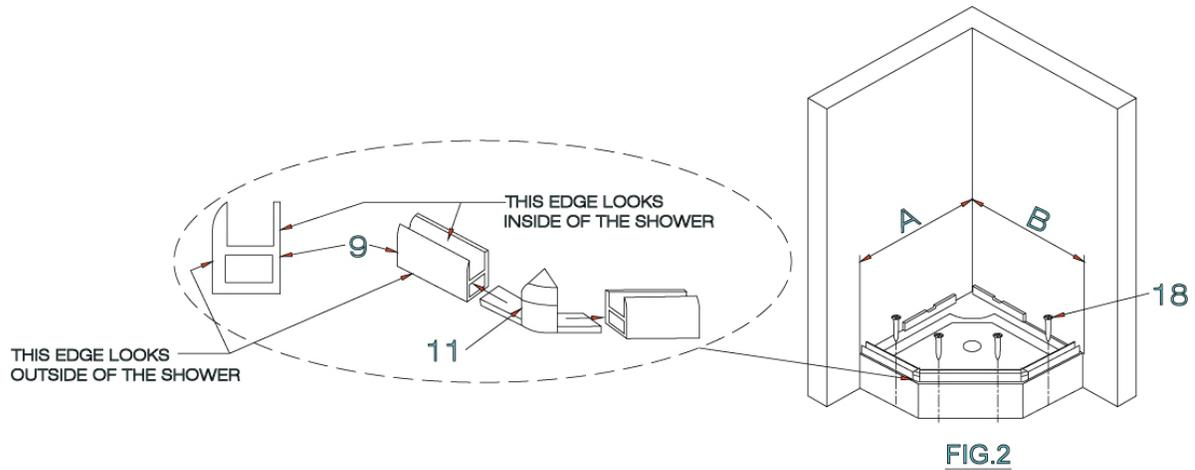

FIG.2
1. Slide the bottom corner joint (#11) onto the bottom rail (#9). [SEE FIG.2]